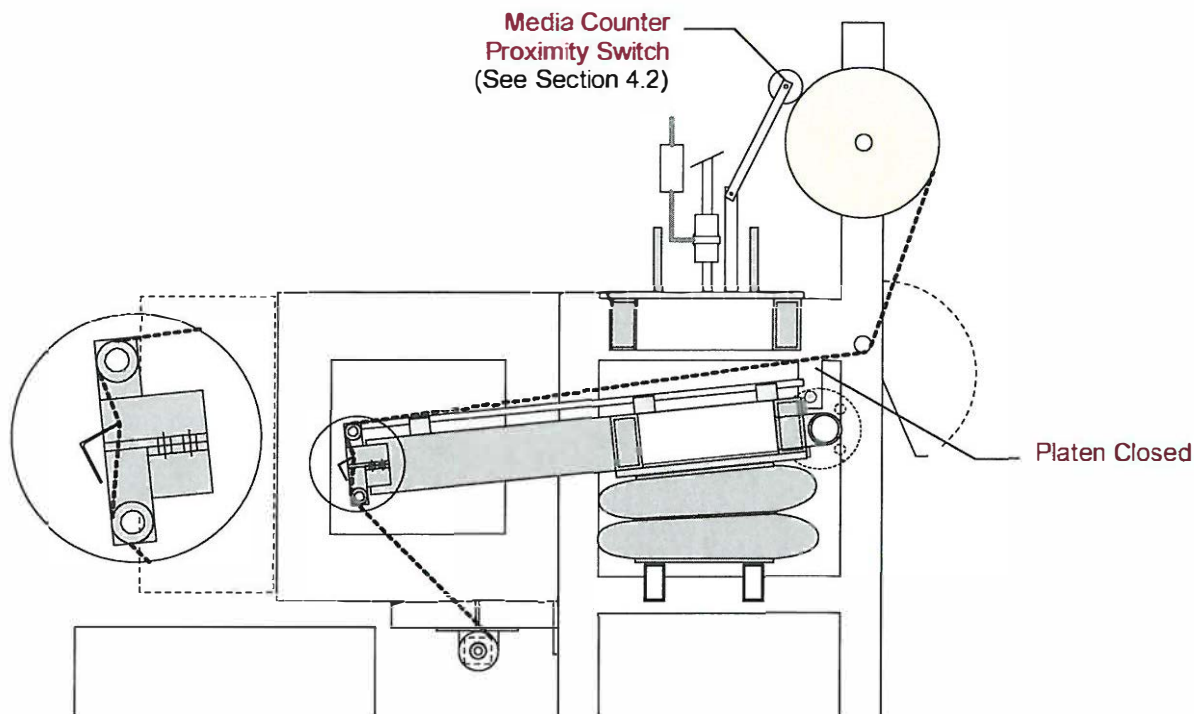

Figure 4-3 Typical Proximity Switches
4. Media Counter (See Figure 4-3.)	Measures length of media drawn into filter at the beginning of each Filtering Cycle. Reroller motor stops when correct value is reached. Normal setting: count 6.